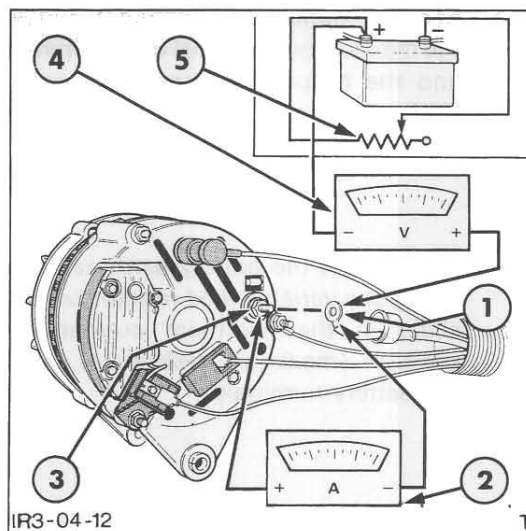

Figure 12
With reference to Figure 12.
5. Disconnect the harness to battery sensor plug and connect a 205 ohm resistor across the plug terminals. Refer to Figure 12.